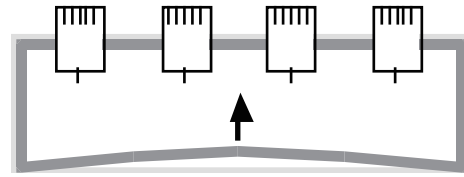

Fig. 1
3. Remove all knob screw indicated in arrow mark on back of the Border frame and take out Border frame slowly toward you as shown in Fig. 1.
Insert set screw lightly as shown in Fig. 1 for mounting Border frame and tighten set screw pulling Border frame toward an arrow mark (to your side).
If you embroider patterns dense in stitches like wappen to the brim of border frame, front part of border frame is pulled inside by shrinkage of fabric and there is a chance that front part of border frame bends as shown in Fig.1.